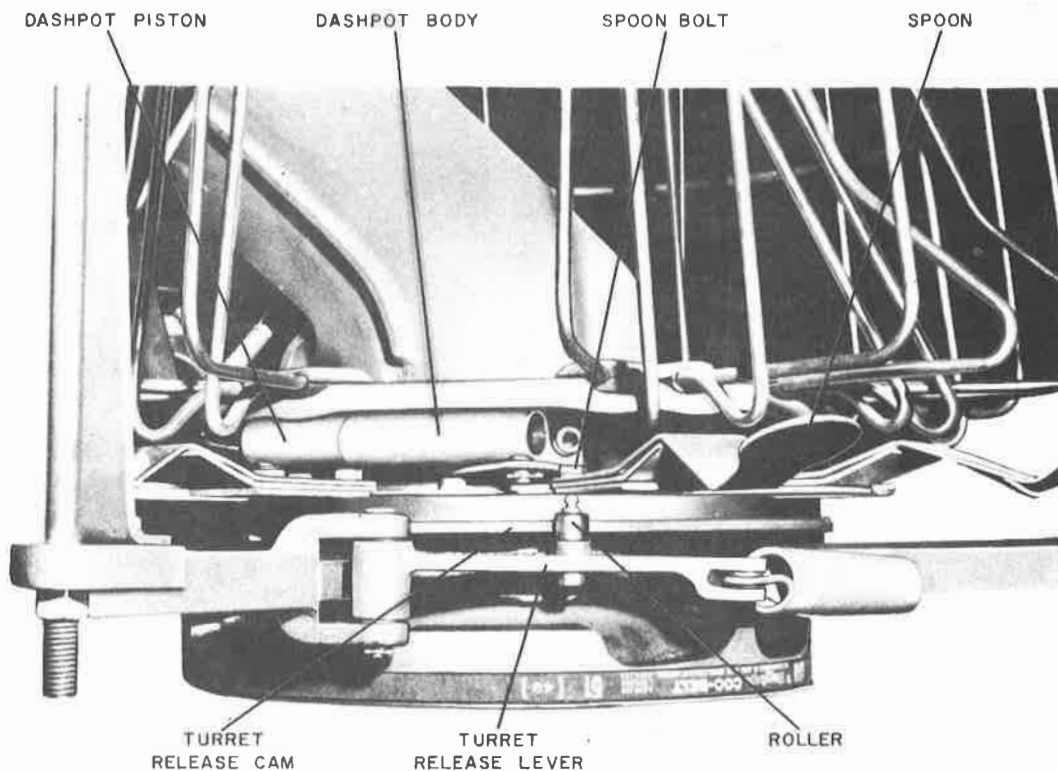

Figure 90. Turret Spider Adjustment
37. TURRET SPIDER ADJUSTMENT. (FIGURE 90)